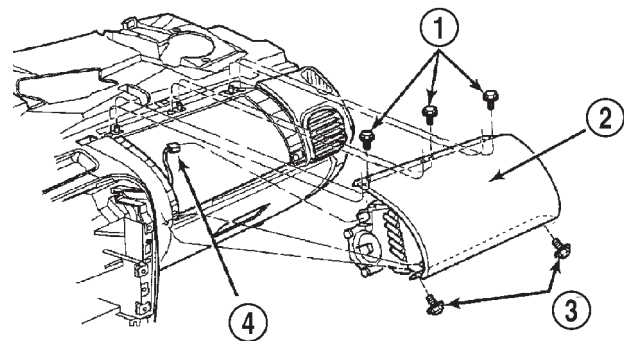

Figure 1
3. Remove the two (2) instrument panel top cover screws located in the defroster opening.
6. Remove the three (3) glove box door screws and then remove the glove box door from the instrument panel.
7. Remove the three (3) passenger airbag cover screws that attach the cover to the top of the instrument panel (Figure1).
8. Remove the two (2) passenger airbag cover screws that attach the cover to the front lower instrument panel (Figure 1).
10. Lift the module up until the wiring connector is visible (Figure 1). Disconnect the 4-way wiring connector by moving the red tab to the unlocked position and then pressing the lock tab.
13. Connect the airbag module wiring connector (Figure 1). Make sure that the red lock tab is in the lock position.
14. Install the three (3) passenger airbag cover screws that attach the cover to the top of the instrument panel (Figure 1). Tighten the screws to 20 in–lbs (2 N·m).
15. Install the two (2) passenger airbag cover screws that attach the cover to the front lower instrument panel (Figure 1). Tighten the screws to 20 in–lbs (2N·m).